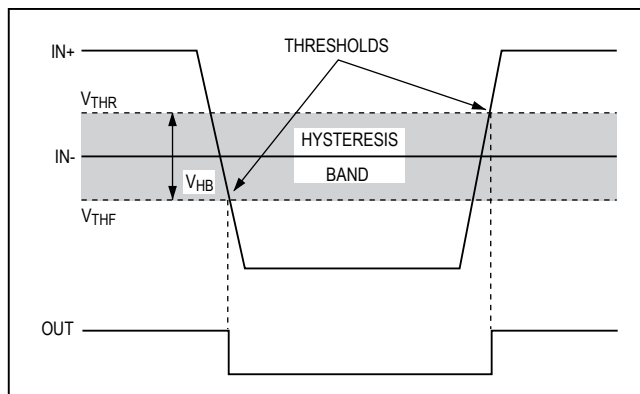

Figure 1. Threshold Hysteresis Band
**Note 1:** All devices are 100% tested at TA = +25°C. Specifications over temperature (TA = TMIN to TMAX) are guaranteed by design, not production tested.**Note 2:** VOS is defined as the center of the hysteresis band at the input.**Note 3:** The hysteresis-related trip points are defined as the edges of the hysteresis band, measured with respect to the center of the band (i.e., VOS) (Figure 1).**Note 4:** Specified with an input overdrive (VOVERDRIVE) of 100mV, and a load capacitance of CL = 15pF. VOVERDRIVE is defined above and beyond the offset voltage and hysteresis of the comparator input.**Note 5:** High current traces should not be routed in the vicinity of or below MAX9018. There is a chance of voltage reference being overloaded resulting in drop of output voltage.**Typical Operating Characteristics**(VCC = 5V, VEE = 0V, CL = 15pF, VOVERDRIVE = 100mV, TA = +25°C, unless otherwise noted.)
The hysteresis in a comparator creates two trip points: one for the rising input voltage ( $V_{THR}$ ) and one for the falling input voltage ( $V_{THF}$ ) (Figure 1). The difference between the trip points is the hysteresis ( $V_{HB}$ ). When the comparator's input voltages are equal, the hysteresis effectively causes one comparator input to move quickly past the other, thus taking the input out of the region where oscillation occurs. Figure 1 illustrates the case in which the comparator's inverting input has a fixed voltage applied, and the noninverting input is varied. If the inputs were reversed, the figure would be the same, except with an inverted output.